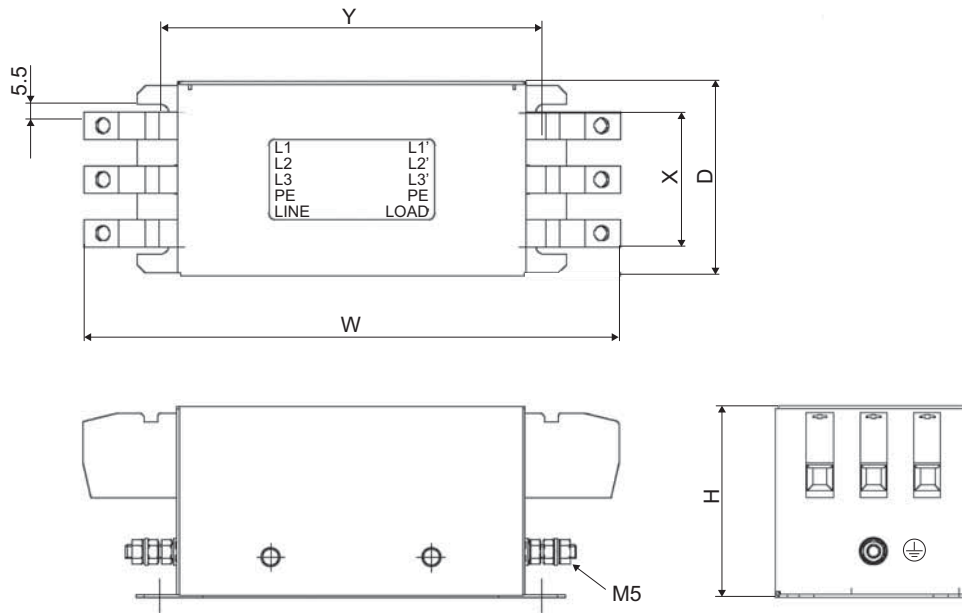

Figure D.12 EMC Filter Dimensions (4A0020)
| 4A0020 | B84143A0035R106 | EPCOS | 35 | 0.9 (2) | 200 × 71 × 72.5 (7.9 × 2.8 × 2.8) | 50 × 142.5 (2 × 5.6) | Figure D.12 |